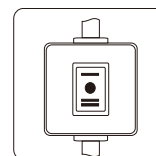
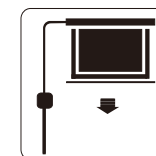

Figure 1
Figure 2
Use a tape measure, to measure the distance between two keyholes (figure 1). According to the measurement, drill the identical holes of the appropriate size on the wall and ensure that they are on the same level (figure 2 and 3). Screw in two screws, and then fasten the screws on the two sides of screen. Finally, please hang on the casing (figure 4) and ensure whether the screen keeps balance (figure 5).
Use a tape measure, to measure the distance between two keyholes (figure 1). According to the measurement, drill the identical holes of the appropriate size on the wall and ensure that they are on the same level (figure 2 and 3). And then, drill two Screw Hooks (no accessories) into these identical holes and buckle the brackets on two ends (figure 4). After hanging, please ensure whether the screen keeps balance (figure 5)
### 1)In-Line Switch (Figure 1)
b) Connect power (prescribe voltage range)Screen Extending (Figure 2)
### Screen Extending (Figure 2)